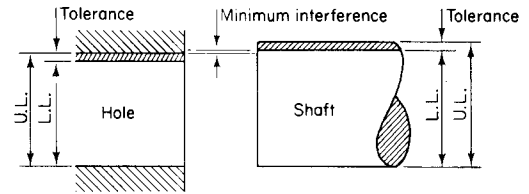

Fig. 4.14 An interference fit between a hole and shaft. The limits on the hole and shaft make sure that the shaft is always larger than the hole
2. *Interference fit* which occurs when the shaft is larger than the hole (Fig. 4.14).